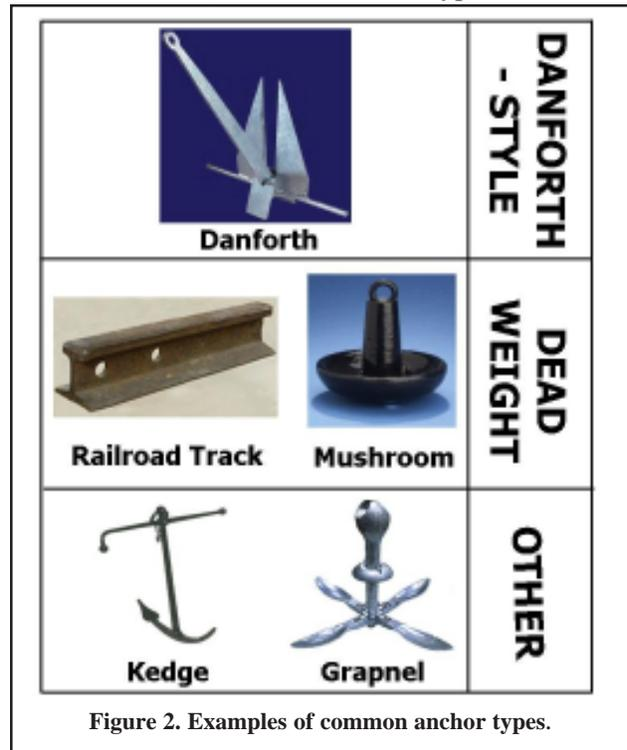

Figure 2. Examples of common anchor types.
36. NUMBER OF NETS AT EACH MESH SIZE: Complete the table by recording the number of nets, and their corresponding mesh size, to the nearest hundredth of an inch. This value may be obtained by measuring a stretched mesh using calipers. This measurement should be taken inside, from knot to knot, stretched in the direction in which the mesh is hung. See Figure 2 and Appendix P. Vernier Caliper Instructions for further information. This information may also be obtained from the Captain.